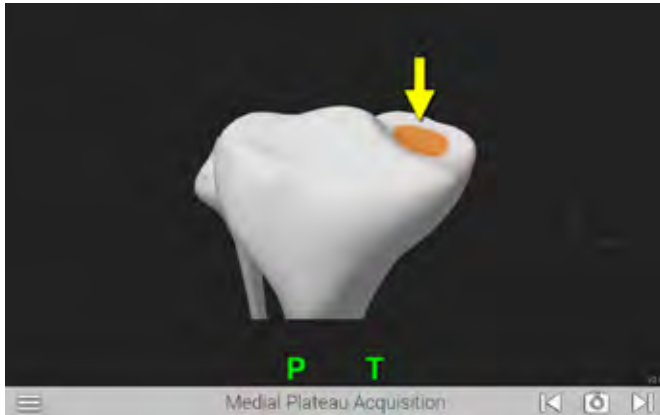

Figure 42
The Medial Plateau Acquisition screen is displayed (Figure 42). Position the tip of the Probe Tracker (P) on medial tibial plateau and press the Forward button. Ensure the tip of the tracker maintains contact with the tibial plateau and trace a patch that captures the lowest point on the medial tibial plateau.